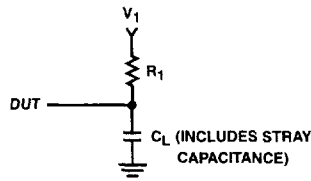

FIGURE 1. LOAD TEST CIRCUIT
- See Load Test Circuit, Figure 1,  $R_1 = 10k\Omega$ ,  $C_L = 50pF$  (Includes Stray and Jig Capacitance).